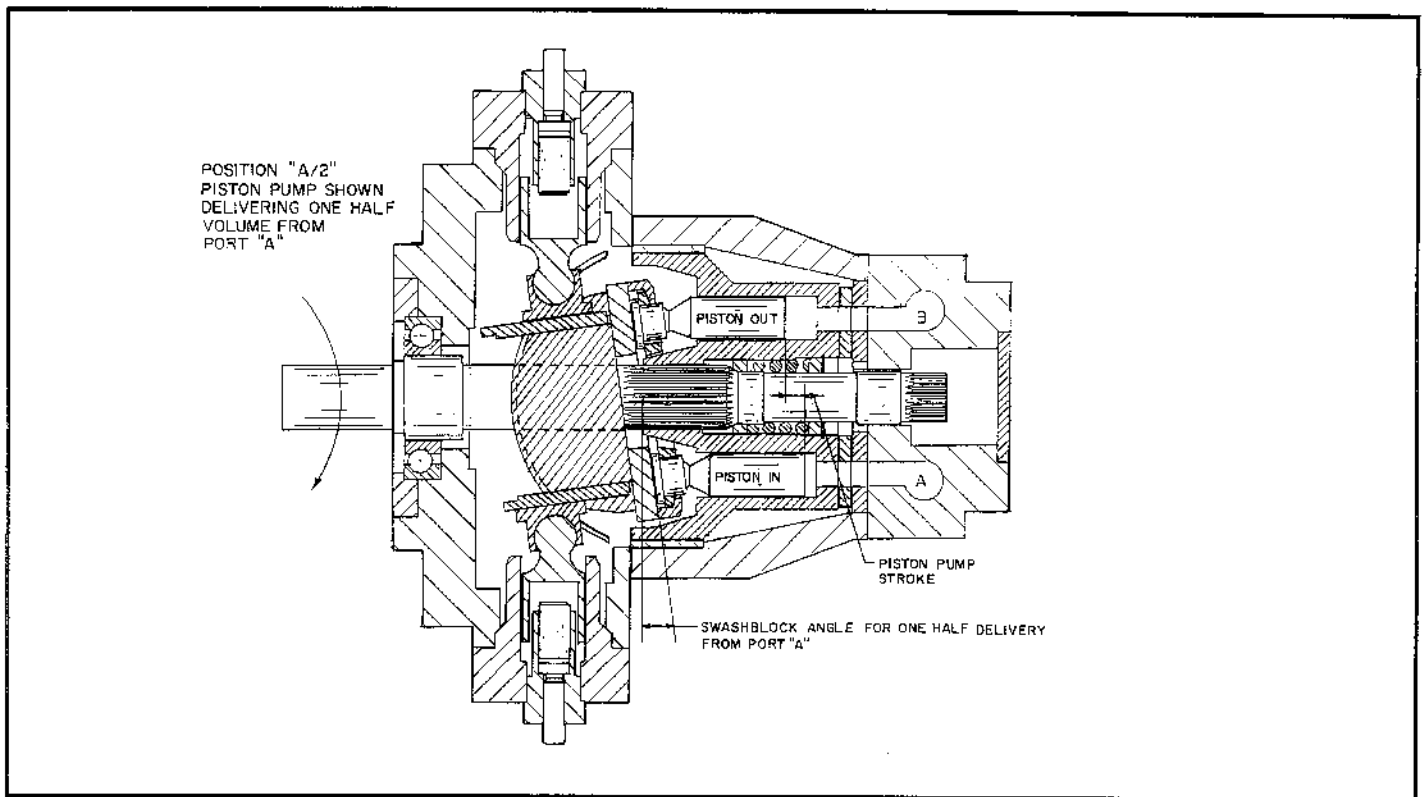

Figure 3. Position "A/2" (5V-12110-L)
SEE FIGURE 3. POSITION A/2. A study of the diagram will show the linear stroke of the control pistons and shoe assembly (501) sets the angular position of the swashblock (201) and swashblock wear plate which determines the length of piston stroke (difference between outermost and innermost position) thereby determining the amount of delivery from the high pressure piston pump. In this example, the linear stroke of the control piston and the angle of the swashblock is one half former (Position A) and pump delivery is one one half the former delivery.